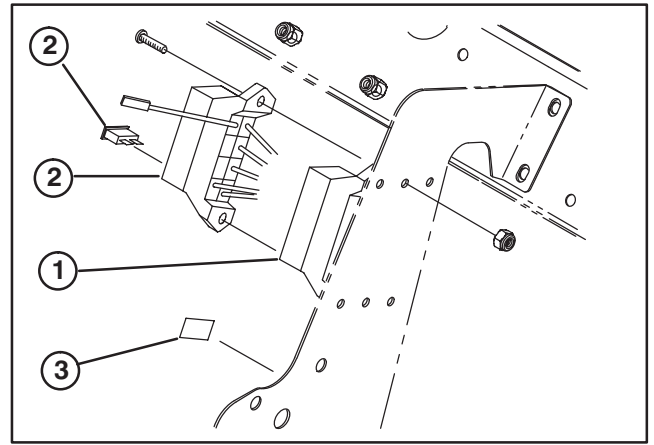

Figure 4
15. Remove screws securing vehicle fuse block to frame (Fig. 4).
16. Slide new fuse block assembly onto front of existing vehicle fuse block (Fig. 4).
17. Mount both fuse blocks to vehicle frame with fasteners previously remove and (2) new screws and lock-nuts (Fig. 4).
18. Affix electric clutch 20 Amp decal to any unused circuit on vehicle fuse block decal (Fig. 4).
36. Insert 20 Amp fuse into fuse block at location shown on decal (Fig. 4).